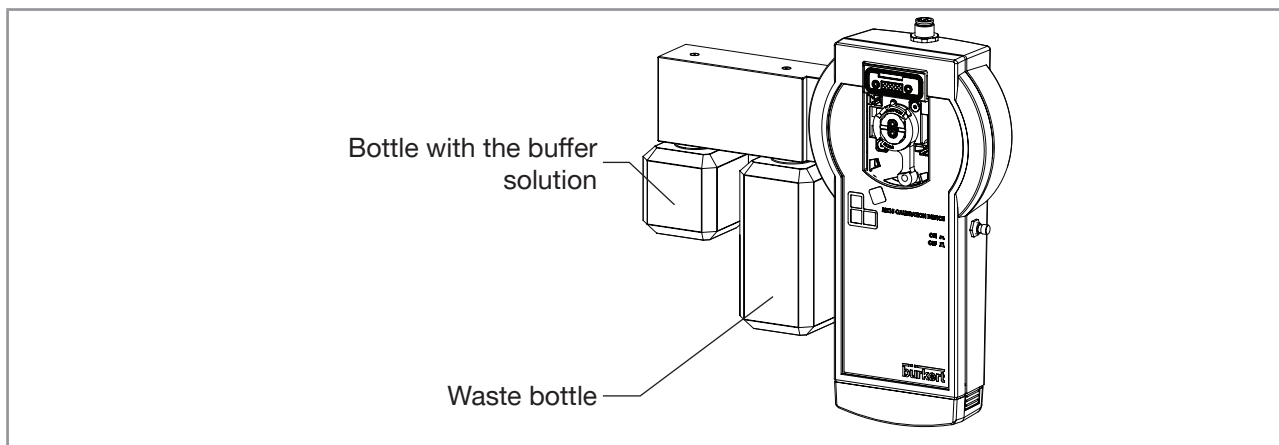

Fig. 11: Handheld calibration-and-cleaning tool: position of the bottle with the buffer solution and position of the waste bottle
- Screw the bottle with the first buffer solution as shown in Fig. 11. Refer to the Operating Instructions of the Type MZ15.
- Screw the bottle with the second buffer solution as shown in Fig. 11.